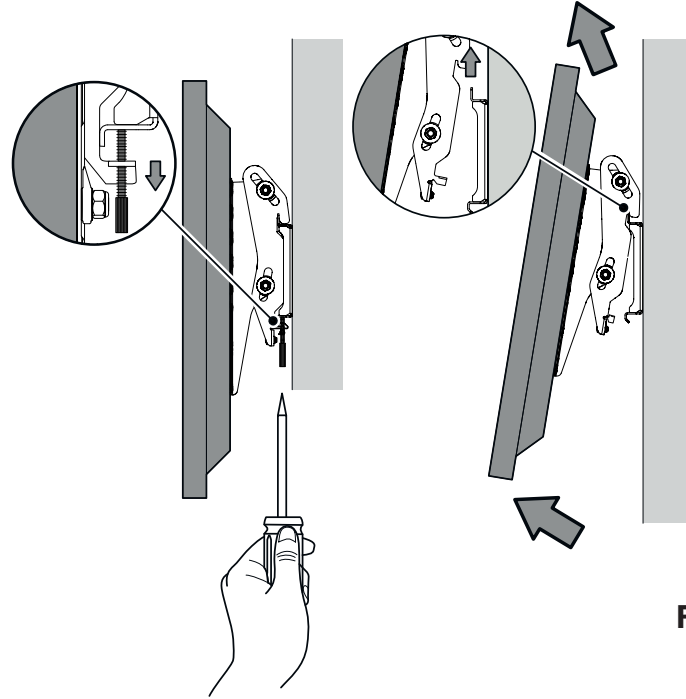

Figure 5
1. Loosen the adjustable bracket screws until they can clear the bottom of the wall mount bracket as illustrated in **Figure 5**.